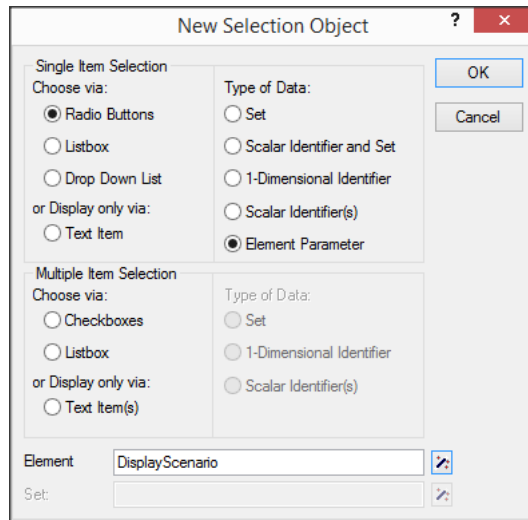

Figure 11.24: The **New Selection Object** dialog box
- ▶ press the **Wizard** button  next to the 'Element' field (see Figure 11.24),